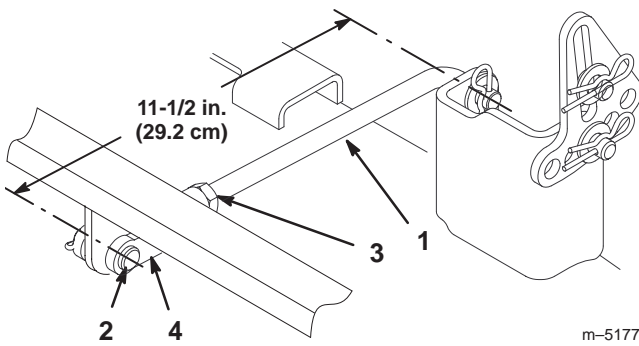

Figure 41
4. Measure the length of the rear trunnion rod (Fig. 41). If the rod length is not 11-1/2 in. (29.2 cm), remove the clevis pin and cotter pin from the end of the rod (Fig. 41), loosen the jam nut, and turn the yoke until the 11-1/2 in. (29.3 cm) dimension is obtained. Then secure the yoke with the clevis pin and cotter pin. Repeat this procedure on the opposite side of the mower.
10. When the front-to-rear blade slope is correct, tighten the jam nuts (Fig. 41 and 43).